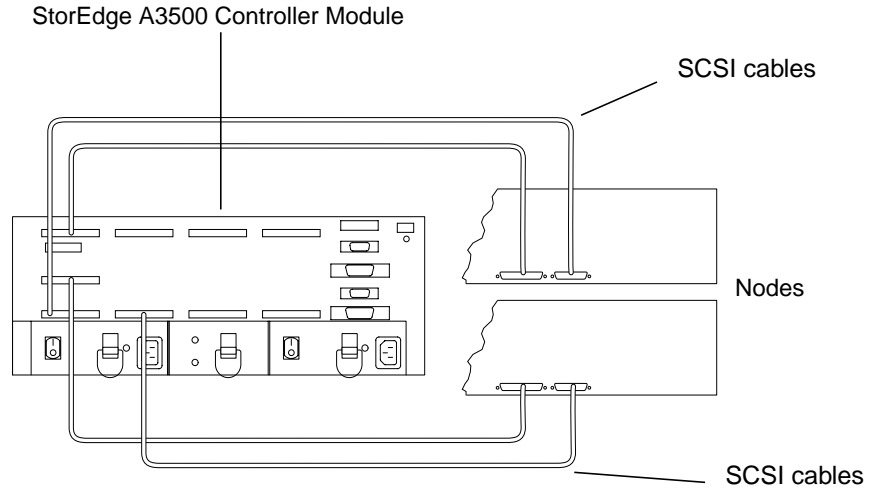

FIGURE A-1 Sample StorEdge A3500 System Cabling
- See FIGURE A-1 for a sample StorEdge A3500 system cabling.